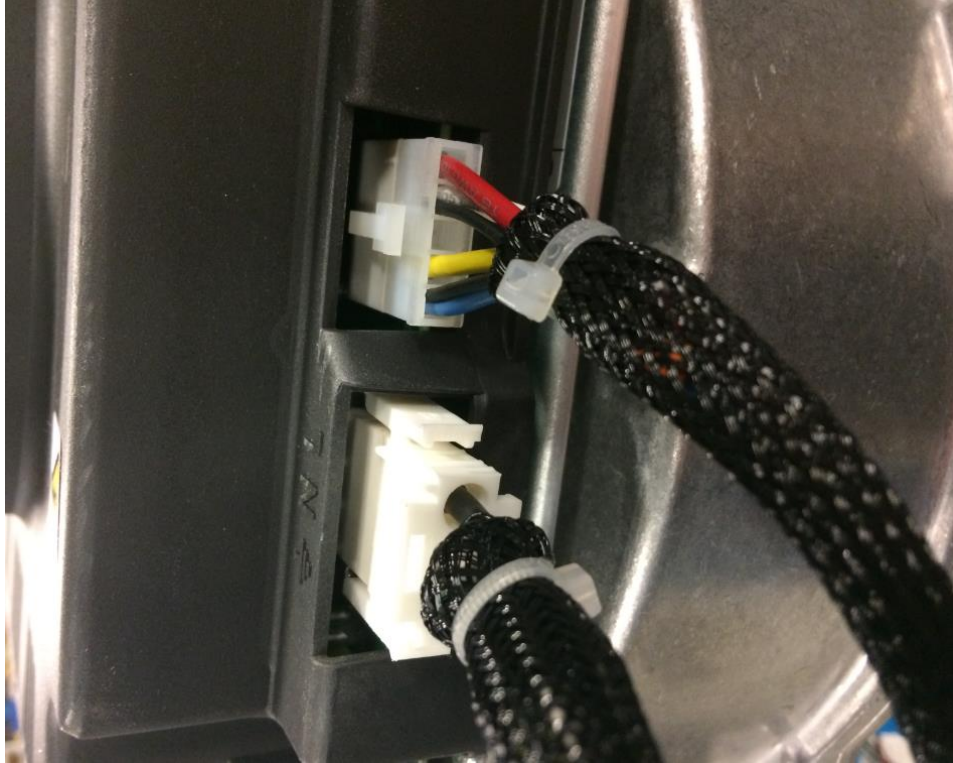

Figure 10
12. Plug fan back in shown in figure 10.